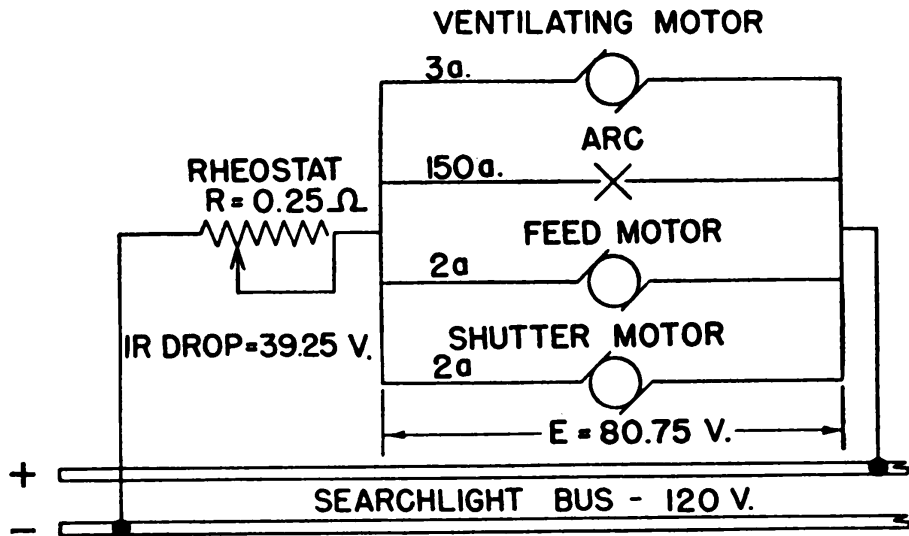

Figure 59.—Simplified searchlight diagram.
Power is furnished to each of these loads by means of a four-branch parallel circuit. Figure 59 is a simplified diagram of the searchlight circuit. In addition to the loads, there is a rheostat (an adjustable resistance) in series with the parallel group. This is necessary to reduce the ship's voltage from about 120 volts to about 80 volts for searchlight operation. In figure 59 the current is labeled for each load. (1) What is the voltage drop across the rheostat? (2) What is the voltage used across each branch of the parallel? (3) What